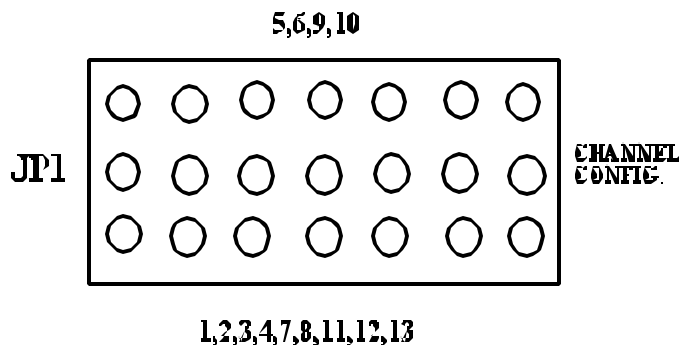

Figure 1. ASM Card Jumper Block
6. On both the operational and spare ASC, set the backup channel configuration using the seven jumpers on JP1. Using all seven jumpers, move the jumpers to the side of the block that lists the number of output channels for your site configuration; the center row of pins being common. Example: using figure 1, as a reference, if your site configuration had 5, 6, 9, or 10 channels, each jumper would connect from the center row of pins to the top row of pins. If your site